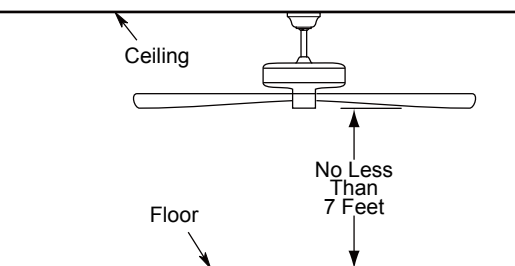

Figure 2
2. Remove the hairpin clip and clevis pin from the bottom of downrod. Retain the pin and clip for reinstallation in Step 4. (Figure 2)
The fan must be hung with at least 7' of clearance from floor to blades. (Figure 2)
To avoid possible electrical shock, be sure electricity is turned off at the main fuse box before wiring. (Figure 2)